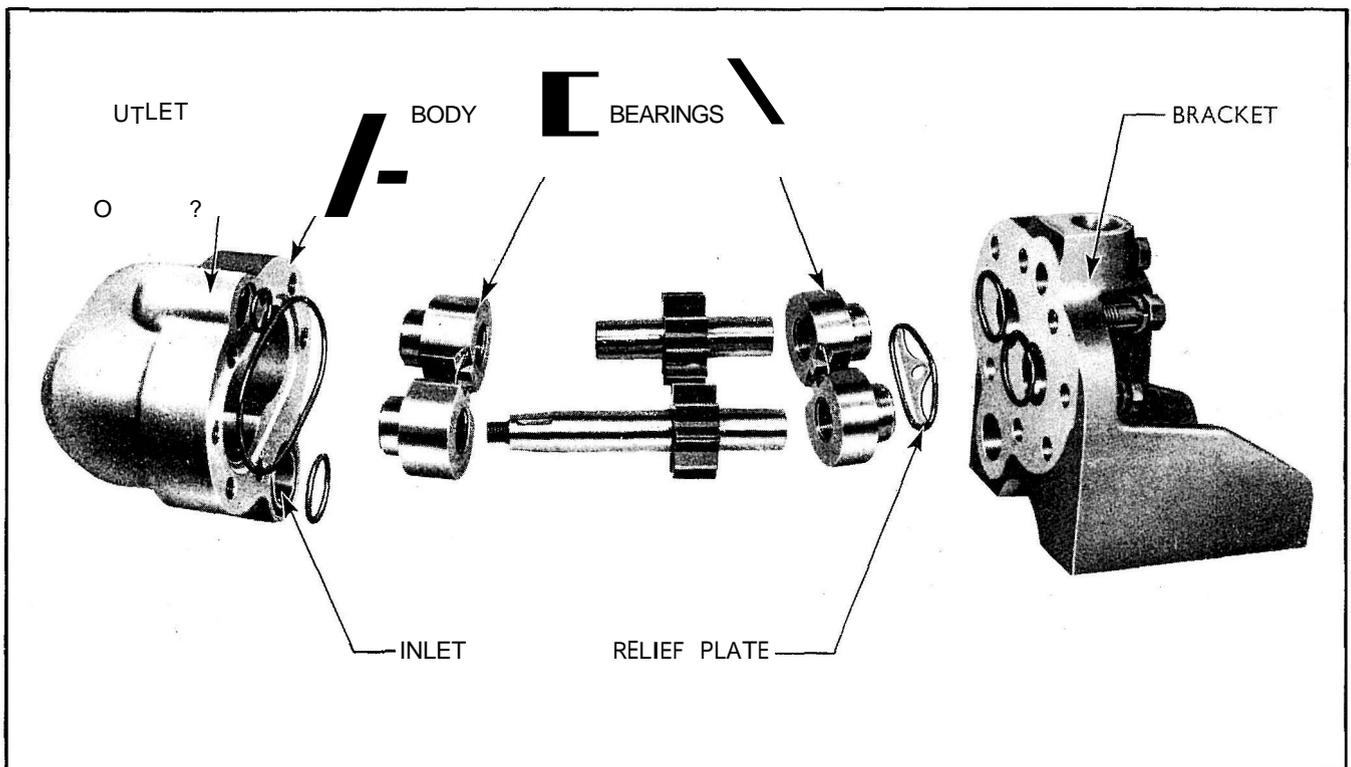

Fig. 200
- 2 Detach the bracket from the pump body after removing the eight retaining screws and lockwashers. (See Fig. 200.)